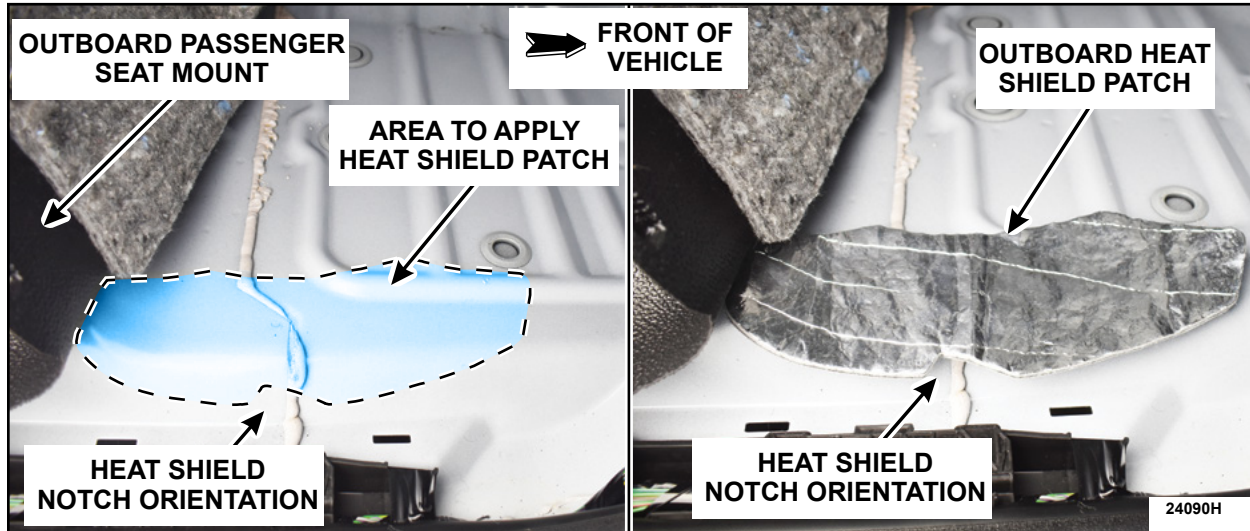

FIGURE 8
8. Install the outboard heat shield patch. See Figure 8.